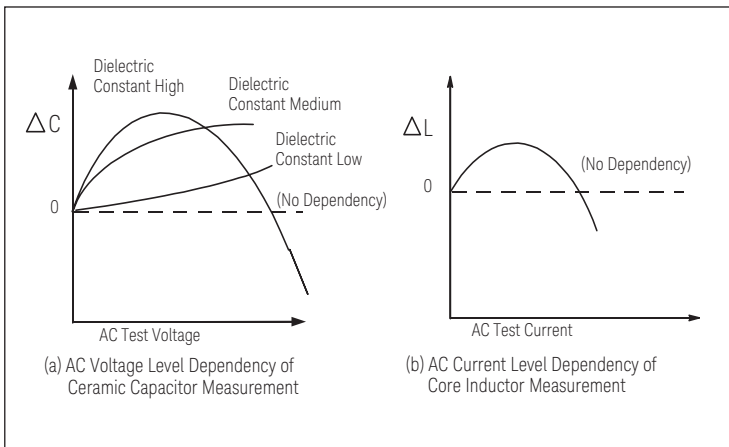

Figure 5. Signal Level Dependency
Signal level (AC) dependency is exhibited in the following ways (see Figure 5):